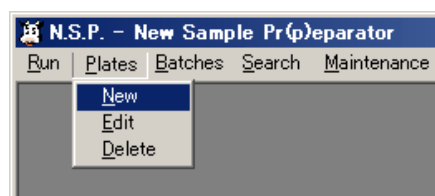

Fig. 5.1-1 : New sample plate
- (1) Select “New” from the “Plates” menu (Fig 5.1-1).